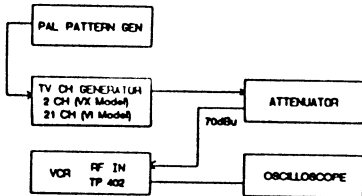

Fig. 17 RF AGC Adjustment
1. Apply a PAL colour bar signal to the video input terminal of the TV channel signal generator. (Fig. 17)
3. Apply the output of the generator to the RF IN terminal on the rear panel. Using the attenuator, adjust the point signal level for 70dBu measured at the RF IN Terminator. (Fig. 17)